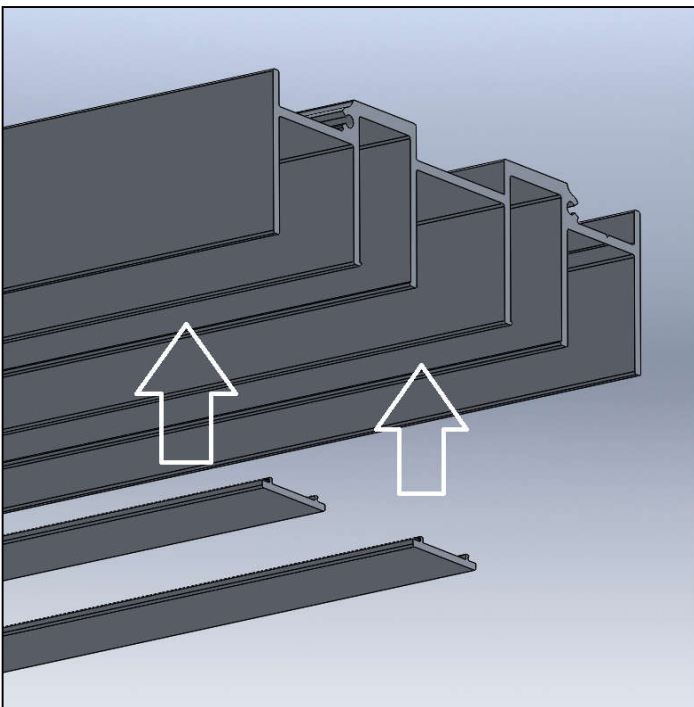

Figure 6
10) Next install the **frame head caps** as shown In Figure 6>.
See Figures 6 & 7 for positioning: